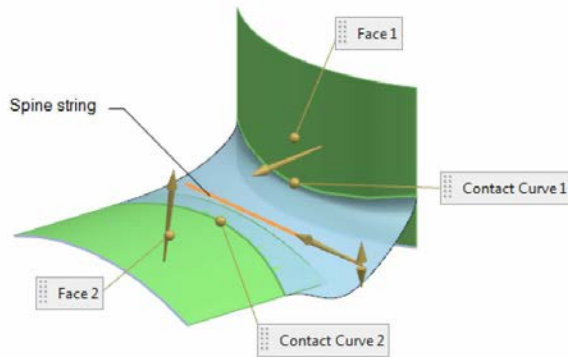

Figure 11-35 Objects to be selected
2. Select the first face set, refer to Figure 11-35. Choose the **Reverse Direction** button, if needed.
3. Choose the **Face** button in the **Select Face 2** area and then select the second face set, refer to Figure 11-35. Choose the **Reverse Direction** button, if needed.
5. Select the first contact curve, refer to Figure 11-35.
6. Click in the **Select Contact Curve 2** area and select the second contact curve, refer to Figure 11-35.
8. Click in the **Select Spine Curve** area and select the Spine string, refer to Figure 11-35.